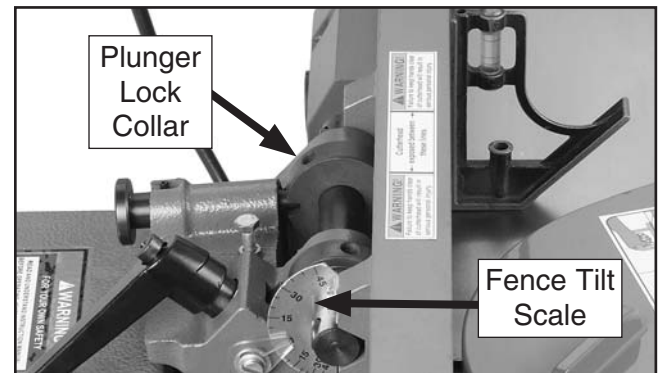

Figure 75. Adjusting fence to 90°.
1. Loosen the set screw in the plunger lock collar shown in **Figure 75**, and loosen the fence tilt lock.
2. Using a 90° square, adjust the fence to the 90° position, as shown in **Figure 75**, then tighten the set screw in the plunger lock collar.